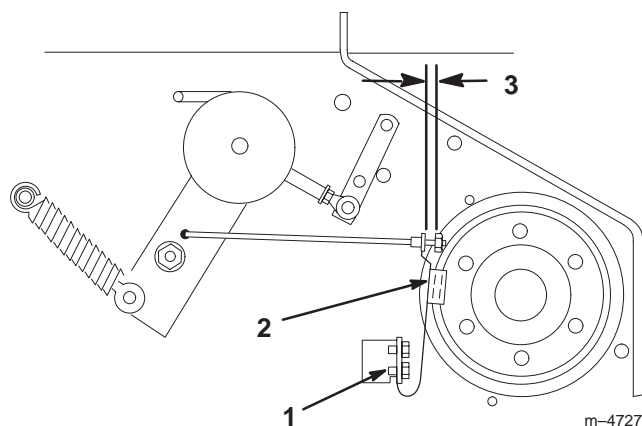

Figure 50
2. If necessary, adjust the spring mounting bolts so that the blade brake pad rubs against the pulley edges (Fig. 50).
3. Adjust the nut at the end of the blade brake rod until there is 1/8–3/16 in. (3–5 mm) between the nut and spacer (Fig. 50).